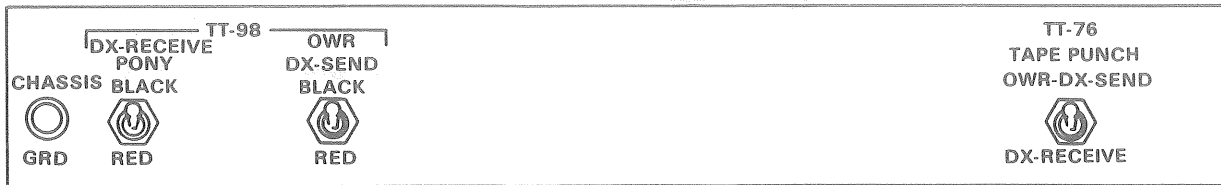

Figure 9. Radio Teletypewriter Set AN/GRC-142 or AN/GRC-122, Switchbox, Front Panel Controls.
- (1) Connect a jumper wire between E2 and E4.
- (2) Connect shorting plugs to LOOP IN-2 and LOOP OUT-2 receptacles.
- (3) Connect the WHITE banana plug to E1, BLACK banana plug to E3, and BLUE banana plug to E5.
- (4) Connect the plug removed from the LOOP IN receptacle of the dummy box to J3.
- (5) Connect the plug removed from the LOOP OUT receptacle of the dummy box to J7.
- (6) Connect the free end of W28 or W30 (duplex) to the 24 VDC input receptacle.
- (7) If AC only is used, AC power must be used to power the security equipment. A cable is necessary to connect the security equipment to the AC outlet.
- (8) Set TT-98 OWR DX-SEND BLACK RED switch as shown in figure 9 for the AN/GRC-142 or AN/GRC-122 to the RED position.